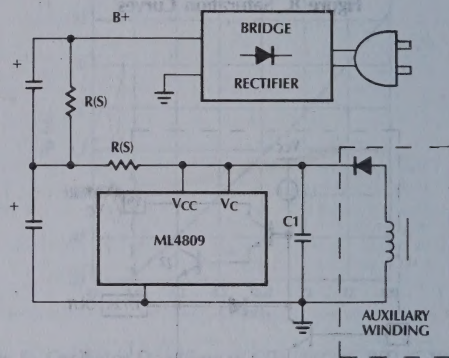

Figure 14. Typical Off-Line Start-Up Circuit and Timing
In the circuit in Figure 14, the ML4809 remains in a low quiescent drain (1.1mA) during T1 while C1 charges through R(S) to 16V. After V_{CC} rises to 16V the ML4809 begins running. C1 provides the energy needed to run the gate drive and ML4809 until the auxiliary winding can provide sustaining energy for the control circuit, preventing C1 from draining below the 9V lockout threshold. The 7V of hysteresis in the Undervoltage Lockout circuit allows the ML4809 to start from a bleed resistor/capacitor easily. While the ML4809 is in the standby (Lockout) condition, OUTA and OUTB will be pulled low.